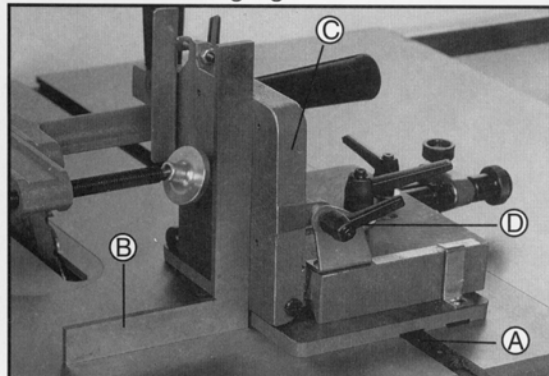

FIGURE 5
1. Place the tenoning jig guide bar (A), figure 5, into the left miter gauge slot.
2. Using a square (B), figure 5, check to see if the vertical work support plate (C) is 90 degrees to the table. If an adjustment is necessary loosen lock handle (D), move vertical work support plate (C) until it is 90 degrees to the table and tighten lock handle (D). NOTE: Lock handle (D) is springloaded and can be repositioned by pulling out on the handle and repositioning it on the nut located underneath the handle.